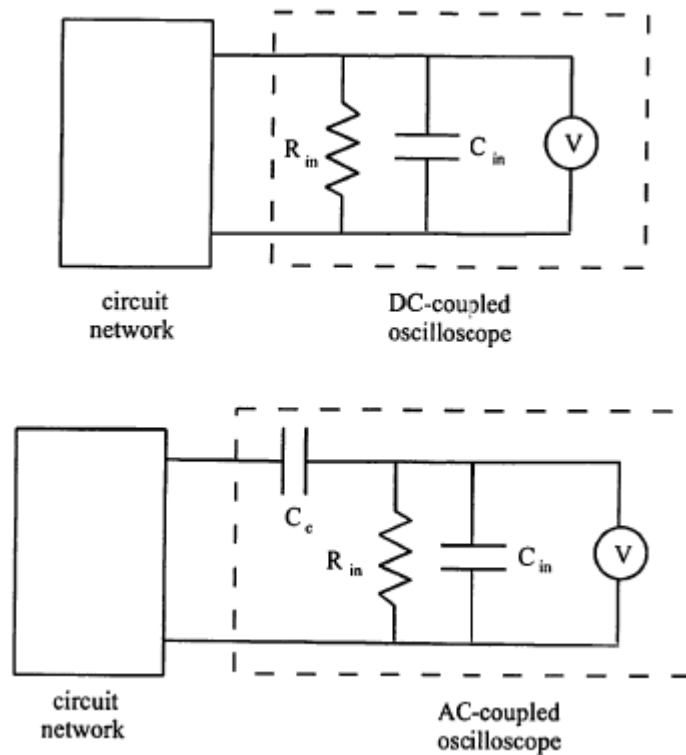
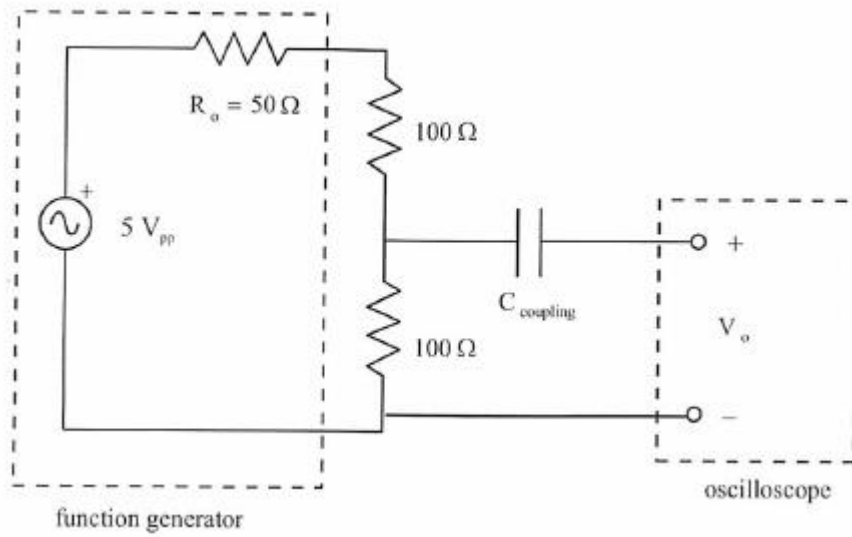

Figure 3.2 Oscilloscope Coupling
Figure 3.9 Coupling Capacitor Effects
Most oscilloscopes are provided with a switch to select between AC or DC coupling of a signal to the oscilloscope input amplifier. When AC coupling is selected, the DC component of the signal is blocked by a capacitor inside the oscilloscope that is connected between the input terminal and the amplifier stage. Both AC and DC coupling configurations are illustrated in Figure 3.2. R_{in} is the input resistance (impedance) and C_{in} is the input capacitance. C_c is the coupling capacitor that is present only when AC coupling is selected.
- Refer back to Figure 3.2 for details on the impedances within the oscilloscope. We can simulate an AC coupled oscilloscope by adding an external coupling capacitor to a DC coupled oscilloscope. To do this, build the circuit shown in Figure 3.9. Add a 1 Vdc offset to the $5V_{pp}$ 1kHz signal in the output of the function generator. Be sure to select DC coupling on the oscilloscope. Use a $0.022 \mu\text{F}$ coupling capacitor (C_{couple}) and note the resulting output. Then try a $0.1 \mu\text{P}$ and a $1 \mu\text{P}$ capacitor (refer back to Section 1.4 in Lab 1 for info on how to read capacitor values). **Note carefully what happens to the oscilloscope display when you first attach the scope probe to measure V_o for each case.** Make sure you discharge the coupling capacitor by shorting its leads before you attach the probe to measure the voltage. How do the results change with the capacitance value?